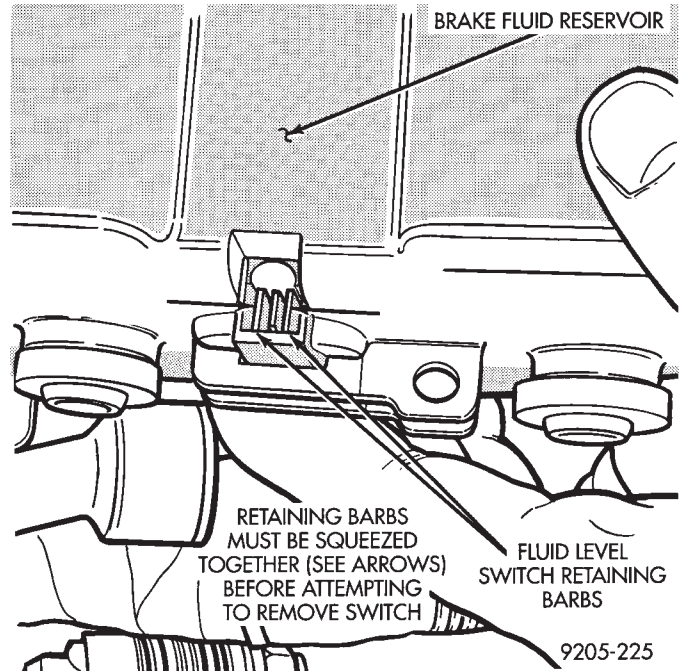
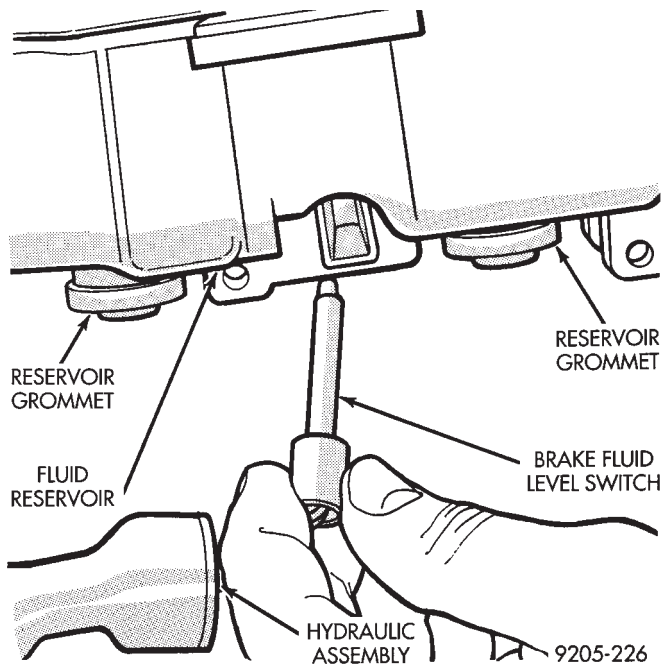

Fig. 13 Fluid Switch Retaining Barbs
Fig. 14 Remove Brake Fluid Level Switch
Remove switch by compressing the retaining barbs (Fig. 13) on the end of the switch and then slide switch out of the brake fluid reservoir (Fig. 14)
(7) Using fingers, remove the 3 reservoir grommets (Fig. 14) from the hydraulic assembly or reservoir, and discard. **Grommets must not be reused when reservoir is installed on hydraulic assembly.**
(1) Thoroughly lubricate the new reservoir grommets with clean brake fluid and install on reservoir outlet ports (Fig. 14). **The new reservoir grommets supplied with reservoir, must ALWAYS be used.**
(2) Install brake fluid level switch into brake fluid reservoir (FIG. 14).
(3) Press reservoir into hydraulic assembly **BY HAND**, using a rocking motion to help seat reservoir into hydraulic assembly. Be sure that grommets are fully seated in the hydraulic assembly. **DO NOT AT-**